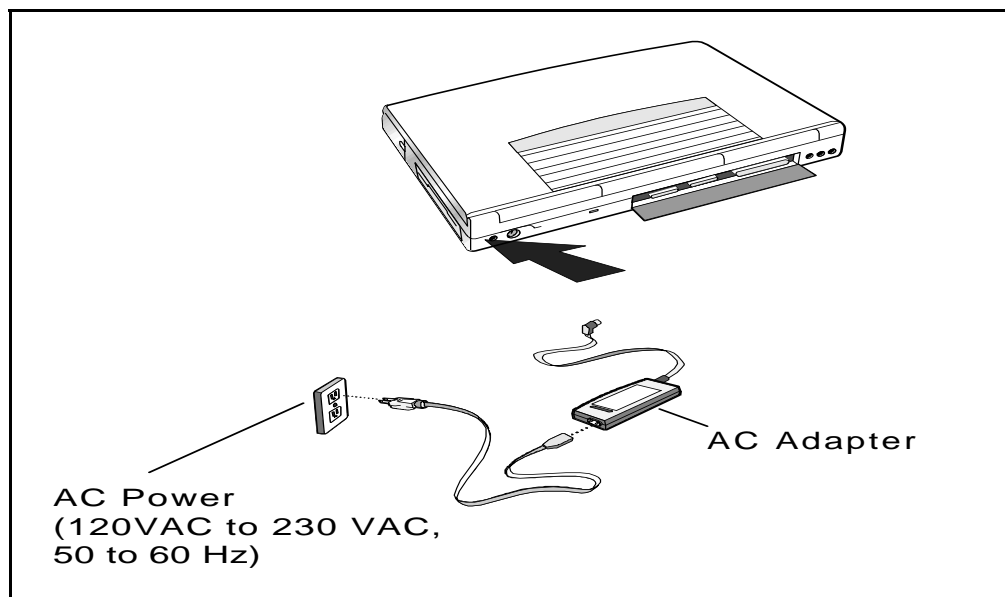

Figure 2-9 AC Adapter Installation
1. Remove the AC adapter from the packaging. Connect the round coaxial connector supplied with the notebook to the power receptacle on the rear of the notebook as shown in Figure 2-9.